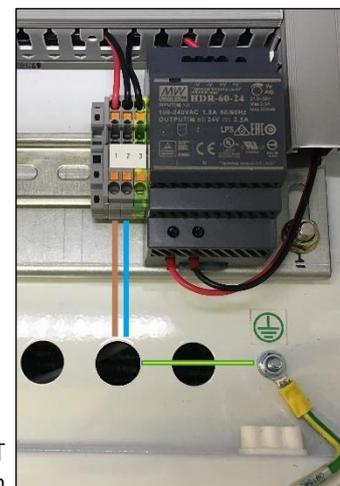

Figure 6: TT8900 OPT Mains Power Connection
1. Route the power cable from the customer’s junction box inside the OPT, using one of the far-right cable entry holes (conveniently located next to the PSU, as shown in Figure 6).
The **Live** and **Neutral** of the AC mains supply conductors should be fitted with crimp-on boot-lace ferrules and inserted into the DIN rail mains connectors 1 and 2 as shown in Figure 6.